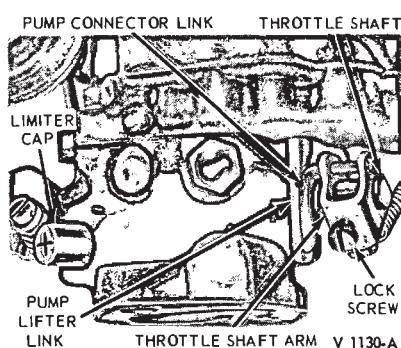

FIG. 13—Throttle Shaft Arm Installation
7. Install the throttle shaft arm and pump connector link on the throttle shaft and pump lifter link (Fig. 13).